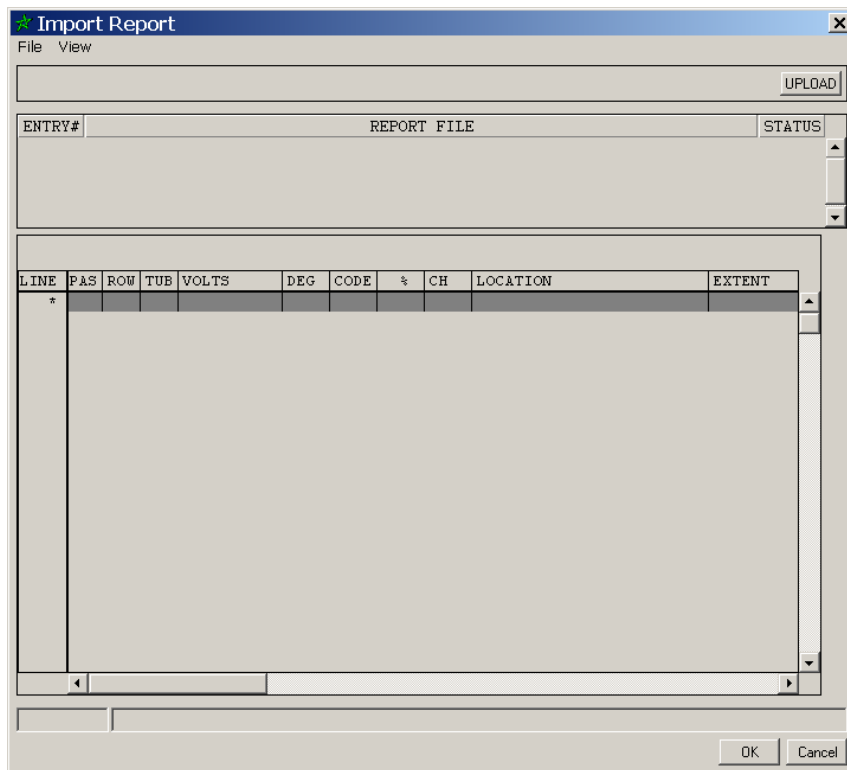

Figure 25. Database | Upload Reports | Import Report Dialog
- Database | Upload Reports** displays the **Import Report** dialog shown in Figure 25. This is one of the most important functions of DBMS, which is, uploading eddy current analysis reports into the database. DBMS v6.0 uploads only CoreStar-format analysis reports. Previous versions of EddyVision contained several other non-CoreStar report formats; however, maintaining the software code to import these *foreign* report formats became cumbersome and expensive. EddyVision v6.0 has addressed this issue by incorporating a report converter, which allows a user to design a report conversion specification he can use to convert a *foreign text* report into CoreStar-format so that the report can then be uploaded into the database. The report converter is discussed later under the *Util | Convert Reports* topic. Quality checks made by DBMS occur in the background during report uploads to indicate to the user problems that may exist in a given report. It is extremely important for database use and proper operation that data be entered into each field of a table in a database in an ordered predictable manner. For example, numbers, not text, can only reside in number formatted database fields. In addition, certain database fields require entries, while other fields do not. These quality checks may produce warning messages during report uploads to alert the user that something's not quite right with the report or that the report's missing a required piece(s) of information.